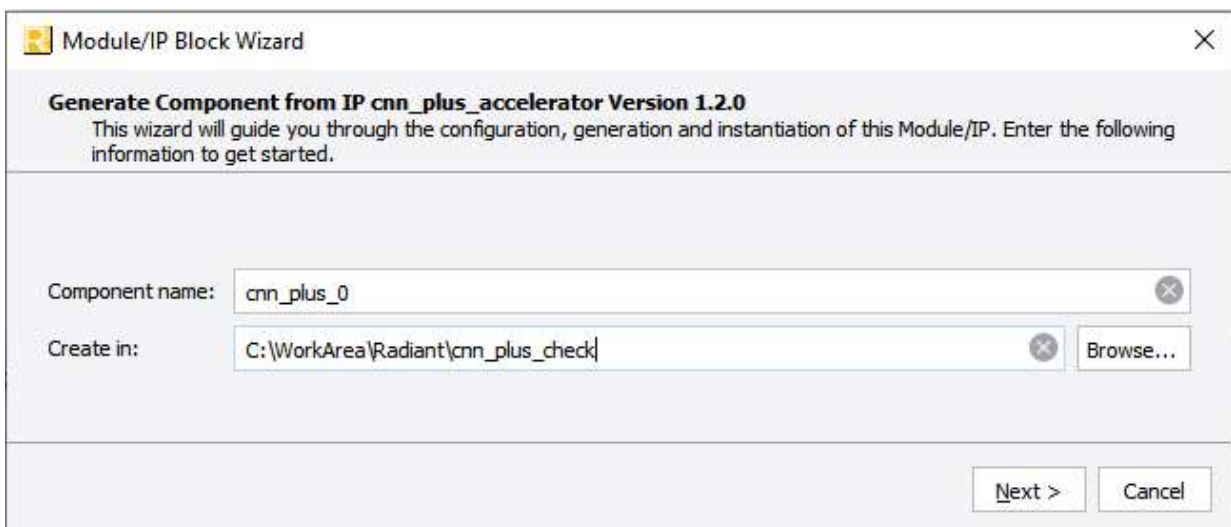
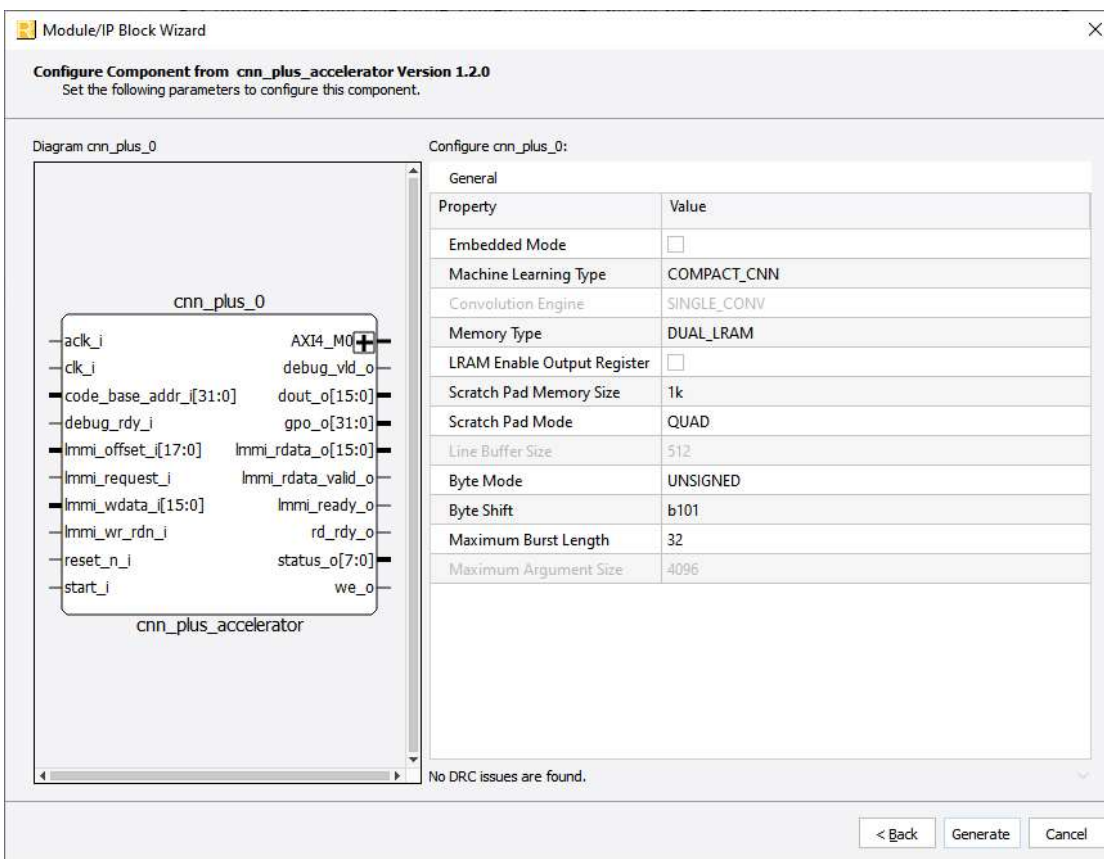
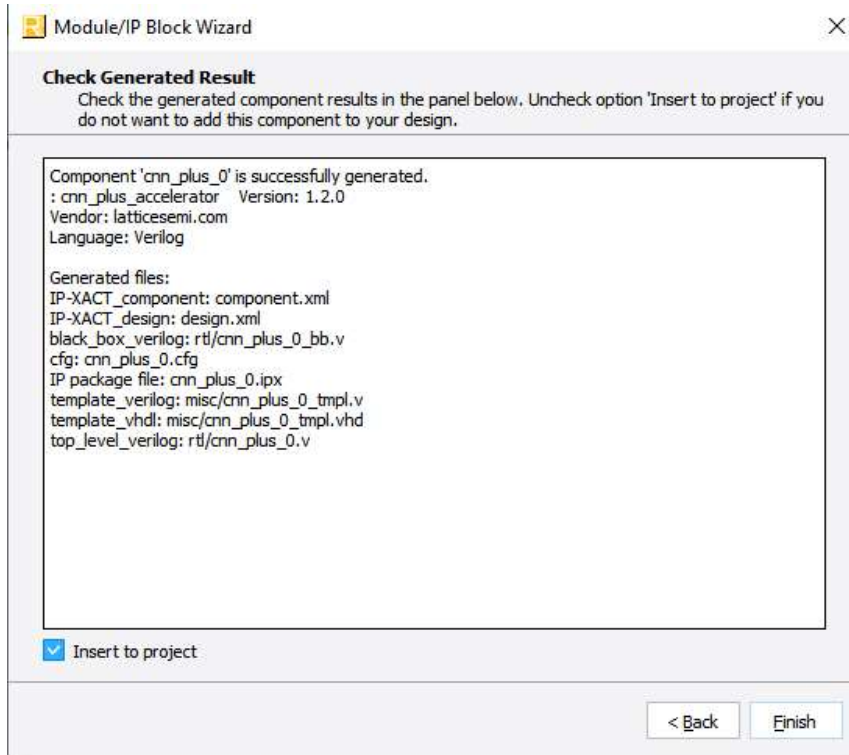

Figure 3.1. Module/IP Block Wizard
Figure 3.2. Configure User Interface of CNN Plus Accelerator IP Core
Figure 3.3. Check Generating Result
2. In the **IP Catalog** tab, double-click on **CNN_Plus_Accelerator** under **IP, DSP** category. The **Module/IP Block Wizard** opens as shown in Figure 3.1. Enter values in the **Component name** and the **Create in** fields and click **Next**.
- In the module’s dialog box of the **Module/IP Block Wizard** window, customize the selected CNN Plus Accelerator IP Core using drop-down menus and check boxes. As a sample configuration, see Figure 3.2. For configuration options, see the Attribute Summary section.
- Click **Generate**. The **Check Generating Result** dialog box opens, showing design block messages and results as shown in Figure 3.3.
- Click the **Finish** button. All the generated files are placed under the directory paths in the **Create in** and the **Component name** fields shown in Figure 3.1.
Core Generation Simulation and Validation	Updated Figure 3.1, Figure 3.2, and Figure 3.3.